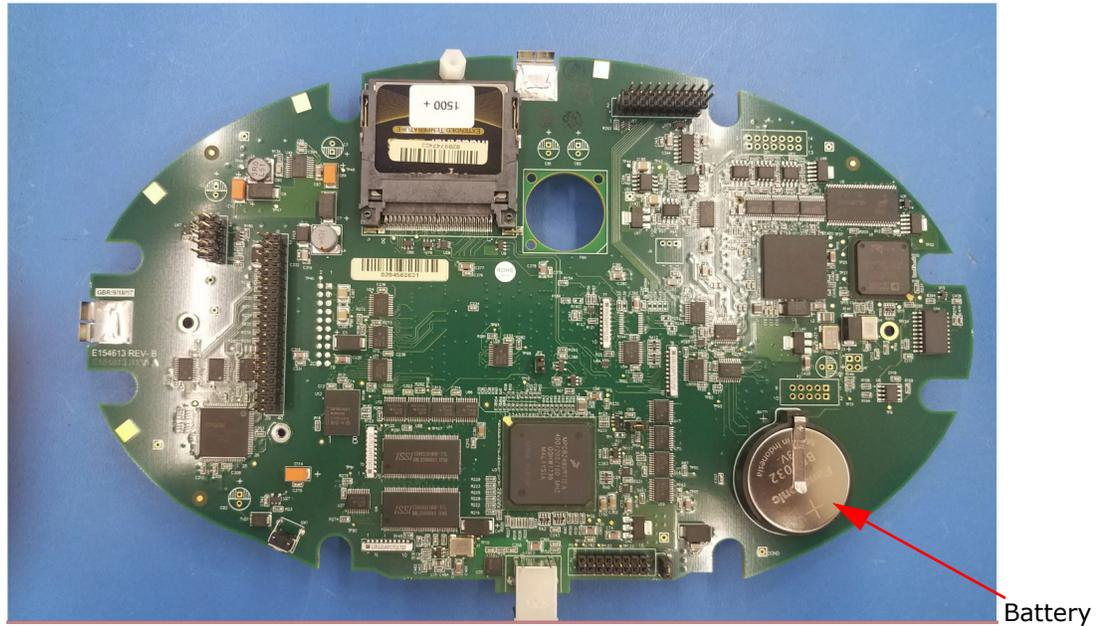

Figure 3.10: Location of Battery
7. Turn the digital board so that the battery is facing you - see Figure 3.10